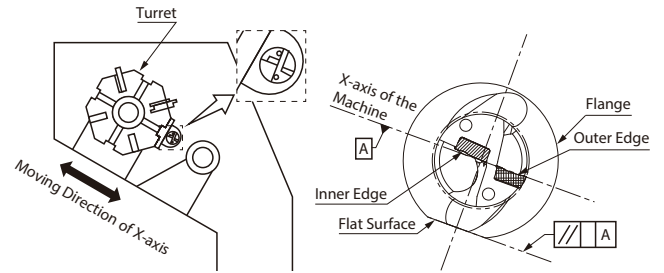
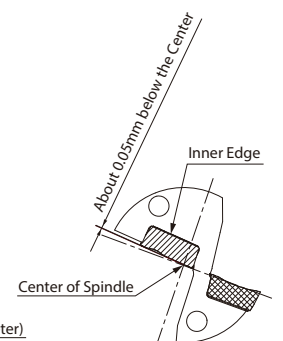

Fig.5 Installed into the Lathe
Fig.9 Front View of the Drill
2. It is recommended to set the outer insert as shown in Fig. 5 with the outer insert facing the operator. (Fig. 5) (It is also possible to use it by setting it in 180° reverse position). If the lathe has two turrets, when installing the drill into the lower turret, the outer insert should be set to face the operator. (It is also possible to use it by setting at 180° reverse position).
When installing inner insert as shown in Fig. 5, it will be set around 0.05 mm below the centre of spindle. (Fig. 9) This is the normal position of the centre height. However, in case that the turret of the lathe is out of the centre of spindle, sometimes the inner insert may be set above or below the centre. For stable machining, it is essential to check the centre height carefully.